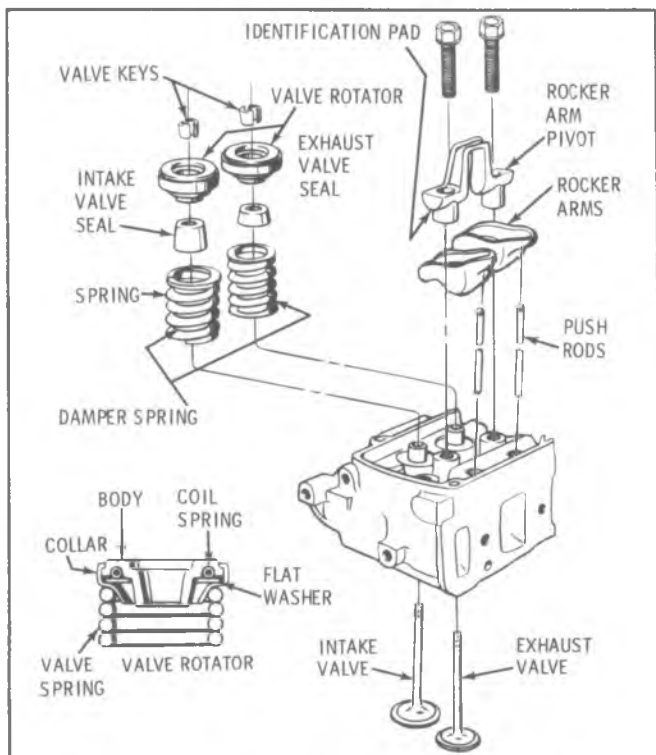

Fig. E-35—Valve Springs and Rocker Arms
4. Position rocker arms, pivots and bolts on cylinder head as shown in Fig. E-35.